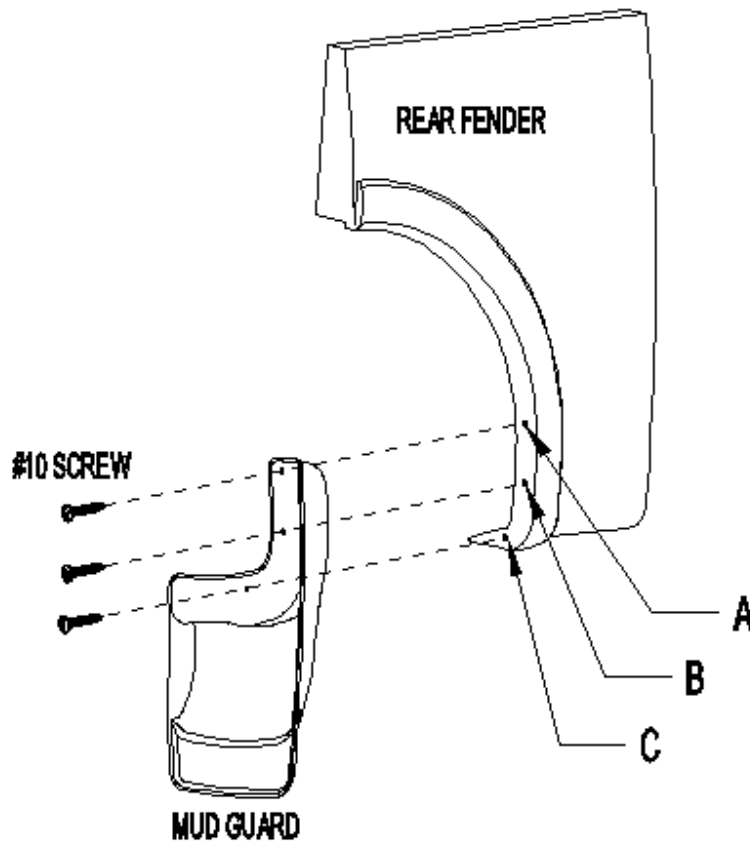

Figure 1
3. Install #10 screws at locations A, B and C, through mud guard into fender flare and fender (Figure 1).